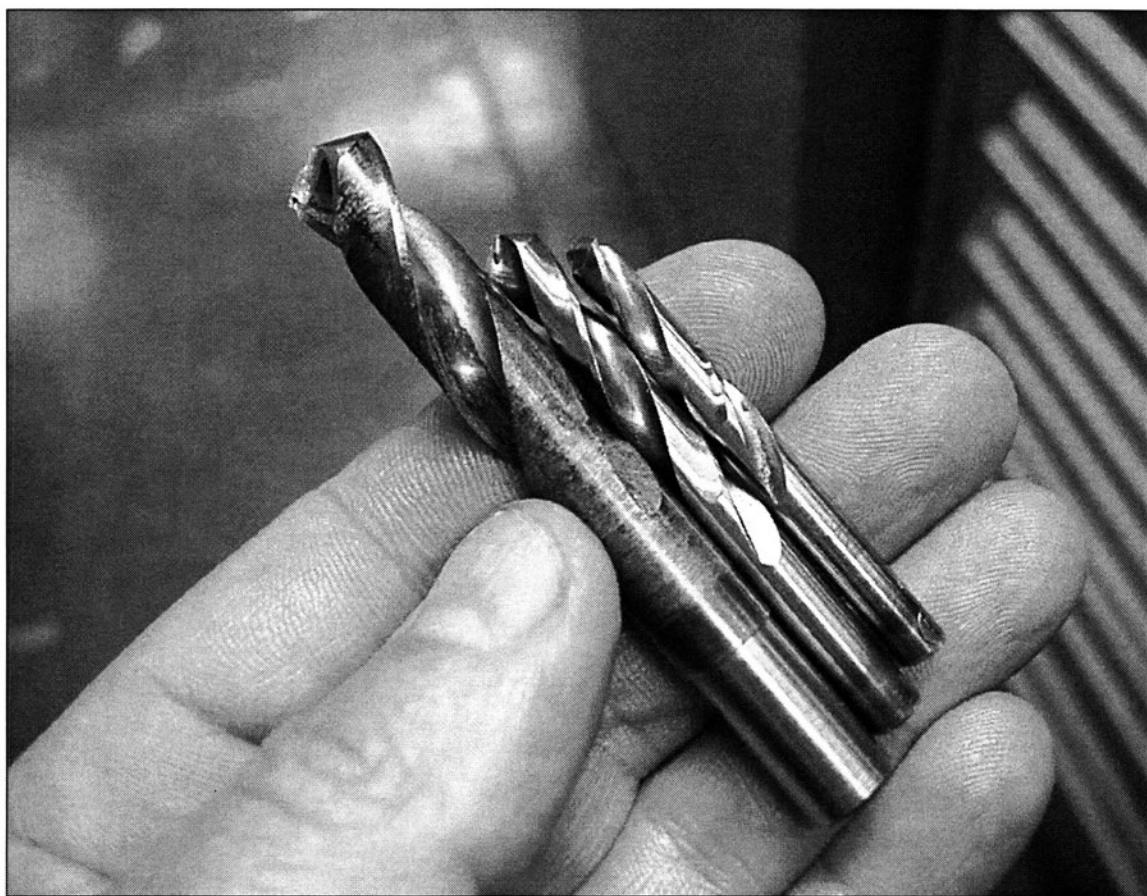

FIGURE 1-3 Stub drills can be used to drill holes without first center drilling.
7. Use stub drills. (See Fig. 1-3)